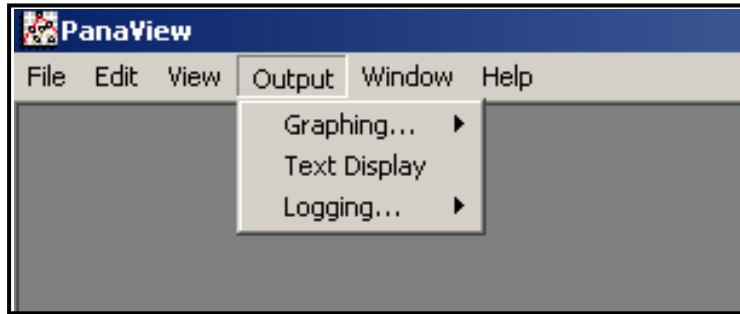

Figure 18: The Output Menu
1. In PanaView, pull down the *Output* menu, as shown in *Figure 18*, and click on the *Text Display* option.